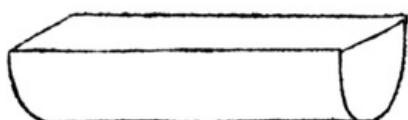
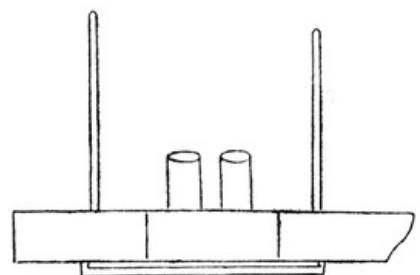

FIG. 152
FIG. 151
**A Steamer** (Fig. 151). Select three corks, as uniform in size as possible. Cut and file part of their round surface quite flat as in Fig. 152. Shape the bow and stern. The funnels are made of two small corks, fastened by pins. The masts consist of pieces of cane or thin sticks.